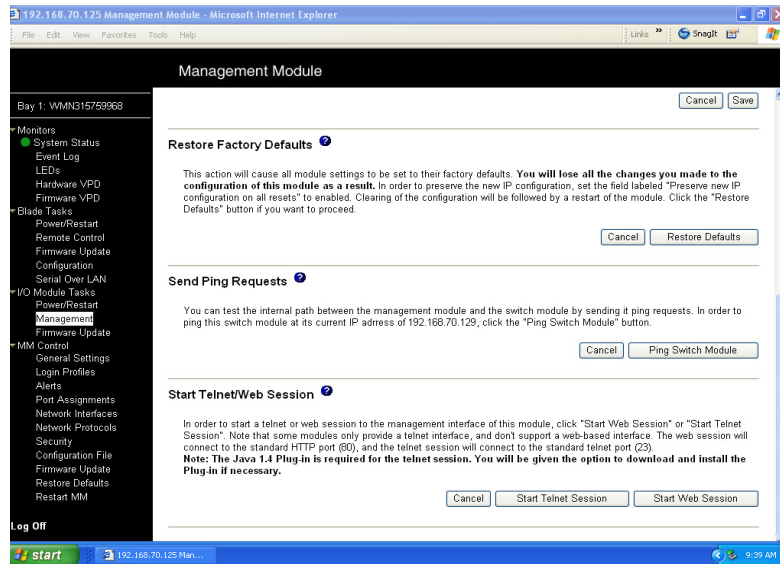

Figure 27. Switch Management window - advanced.
- Scroll down and click **Advanced Switch Management**. A window similar to the one in Figure 27 opens.